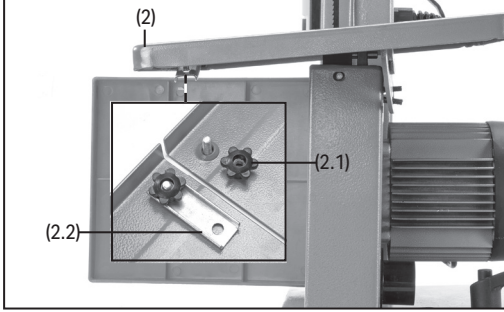

Fig. 1
- Open the front housing. Loosen the blade tension knob (5) to release the strain on the blade. Undo the thumb screw and bracket (2.1) and (2.2), so the blade can be removed freely (Refer to Fig. 1).
- Remove the blade (10), taking note the direction of the teeth. Fit the new blade in the centre of the wheels with the teeth facing down.